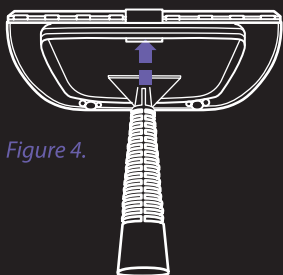

Figure 4.
1. To clean windows and doors easily, attach the window/door cleaning tool (14) to the fabric steamer tool (13).
2. First, remove towel sleeve (12) from fabric steamer tool (73) then hook and click into the window/door cleaning tool.
3. Attach the accessory to the extended connecting spray and clean your windows and doors easily with the rubber wiper (Figure 4.).